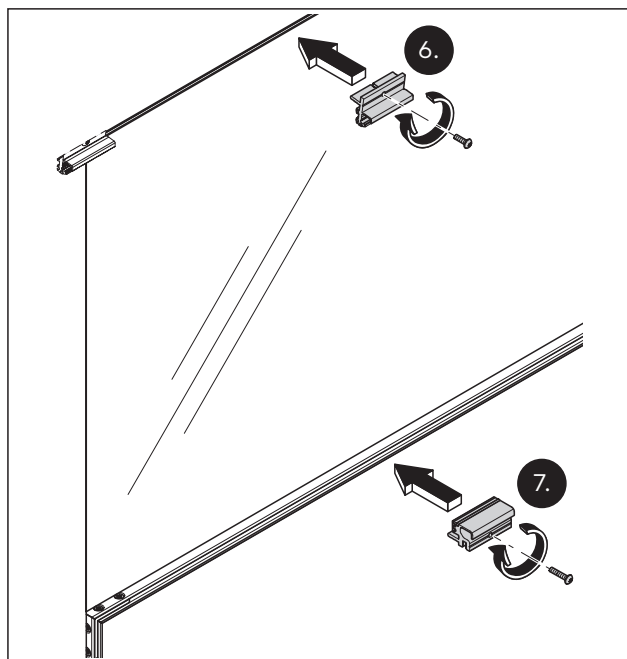

Fig. 44 Fasten the overpanel horizontally to the base profile of the mounting profile (above) and to the base profile of the door frame (below)
7. Mount at least 3 glass clamping pieces per meter on the base profile of the mounting profile with a torque of 5 Nm (Fig. 44).